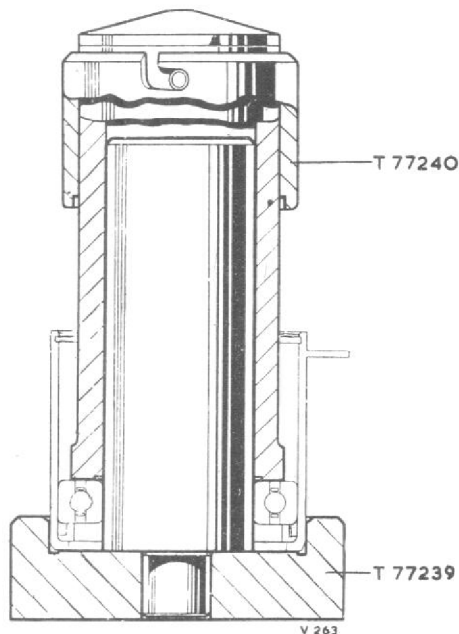
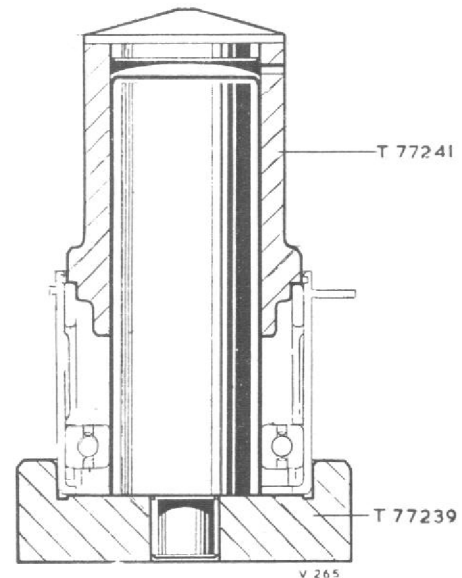
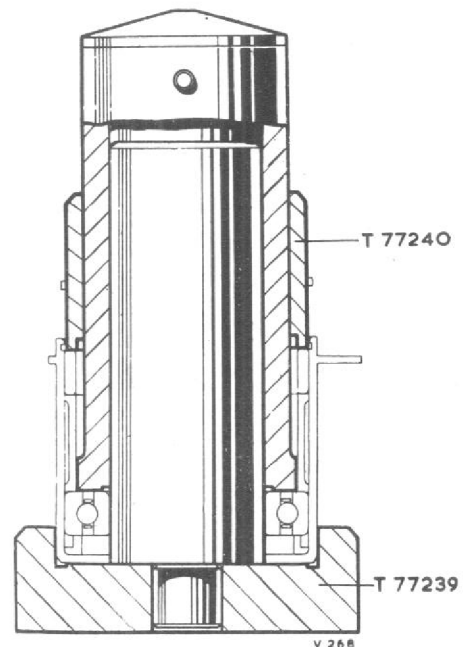

Fig. 18. Pressing the ball bearing into the housing
Fig. 19. Pressing the outer race of the roller bearing into the housing
Fig. 20. Outer race of roller bearing tapped into position by the adapter sleeve
- (1) Assemble the buffer ring to its retaining ring.
- (2) Assemble the buffer ring assembly to the bearing housing.
- (3) Place the bearing housing, flange uppermost, on press block T77239.
- (4) Assemble the ball bearing over the guide mandrel of the press block and using adapter T77240 press the bearing into the housing (fig. 18).
- (5) Assemble the outer spacing ring over the guide mandrel of the press block on to the bearing.
- (6) Position the outer race of the roller bearing, serial number outwards, to adapter T77241.
- (7) Place the adapter with the outer race over the guide mandrel of the press block and press the race into the housing; remove the adapter (fig. 19).
- (8) Position the bearing retaining ring to the sleeve of the adapter T77240.
- (9) Position the adapter to the ball bearing as before and compress the buffer ring; the loading on the adapter must be maintained until this operation is completed.
- (10) Release the sleeve from the adapter and use it to tap the outer race of the roller bearing home (fig. 20).